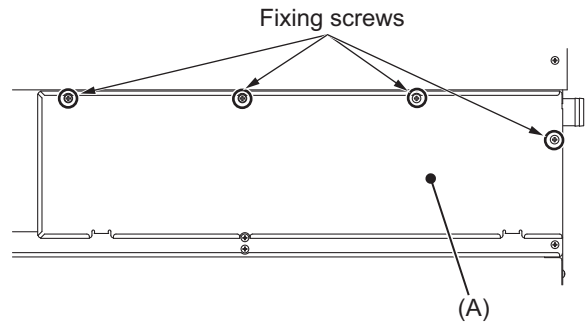

Fig.7
- (1) Remove the fixing screws (three) of the control box, and remove the cover (A). (Fig.7)